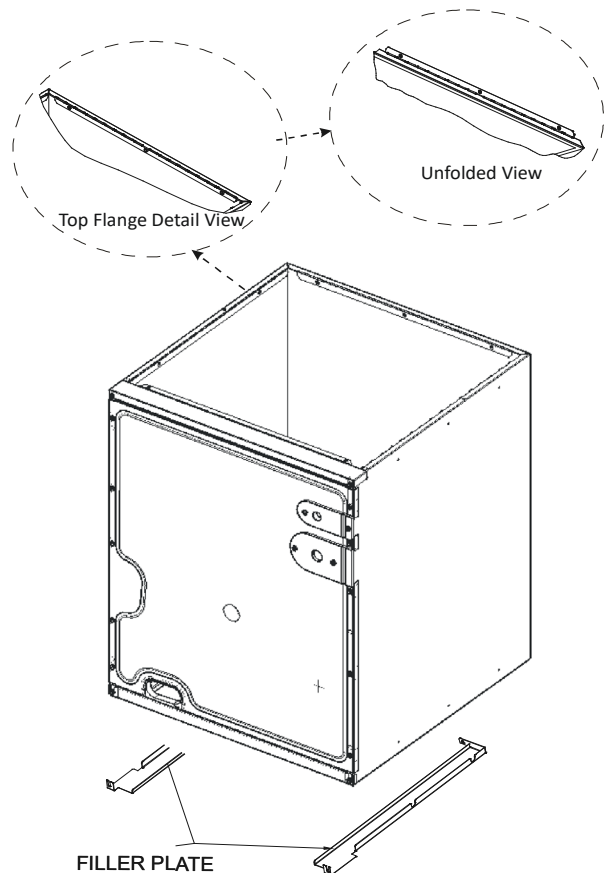

Figure 6
1. Top flanges can be bent for ease in installation to the duct flanges. (See Figure 6)
Filler plates are supplied on all 17.5, 21, & 24.5 inch chassis to be used for adapting the unit to a furnace one size smaller. If the plenum and furnace openings are the same size, the filler plates must be removed. See Figure 6.